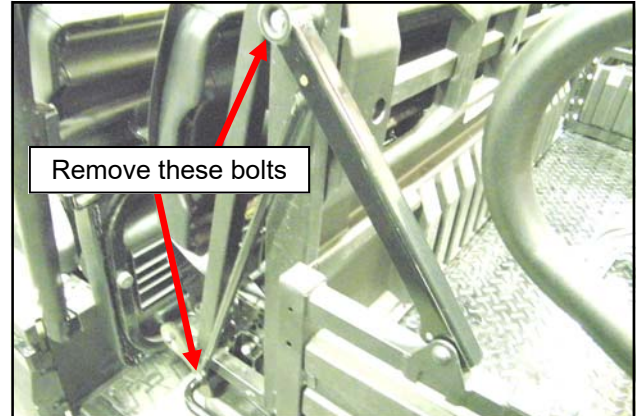

Fig. 3.1 (Rear seat latch mechanism)
3.1 Per figure 3.1, remove the rear seat latch mechanism from each side by removing the metric screws at each pivot point. Retain the screws.